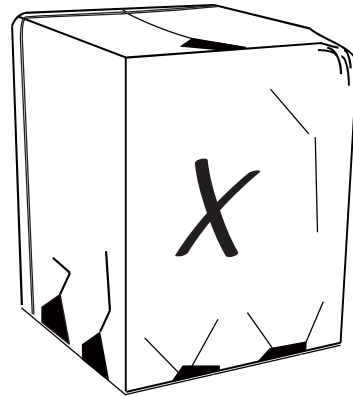

Figure 3-1
STEP 1 - Check for damage and report promptly to the carrier any damage found to the unit (Fig. 3-1).